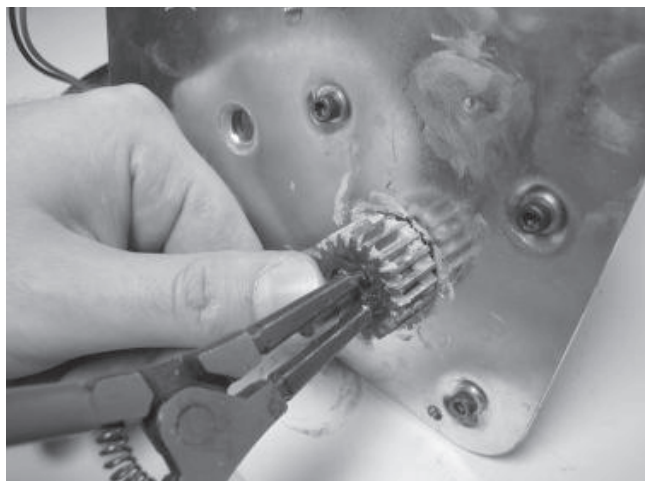

Figure 14.
- 4.16 Turn the motor support plate around and remove the retaining ring with retaining ring pliers, and then remove the pinion gear, see Figure 14.